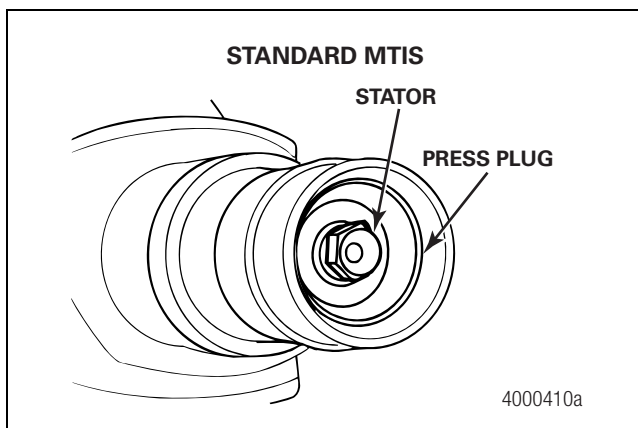

Figure 1.5
- The standard tire inflation system press plug and stator are installed into the axle spindle. Figure 1.5.